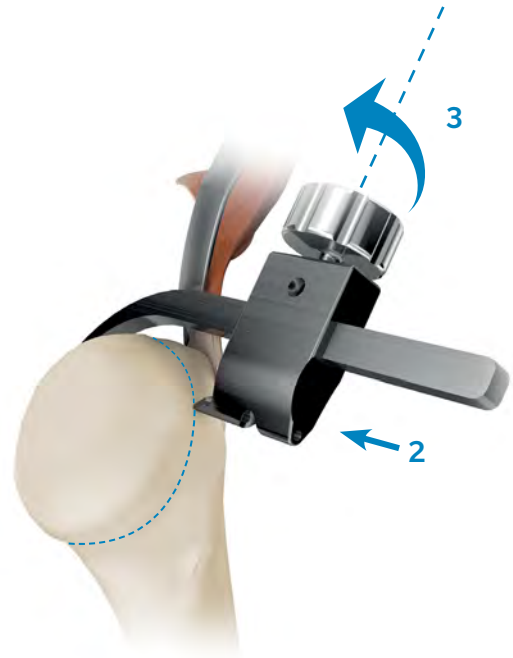

Figure 8
- Move the Slide towards the anterior edge of humeral head. Ensure Slide is exactly on the anatomic neck (Figure 8).
- Secure the Supraspinatus Alignment Guide by rotating the Thumb Screw clockwise (Figure 8).